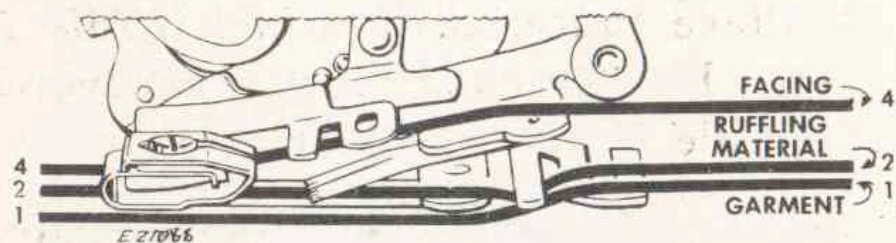

Fig. 60. Correct Position for Materials
1. Insert material to be ruffled between two blue blades and under separator guide (Line 2, Fig. 60).
2. Place material to which ruffle is to be attached under separator guide (Line, 1 Fig. 60).
3. Place facing material over upper blue blade (Line 4, Fig. 60).